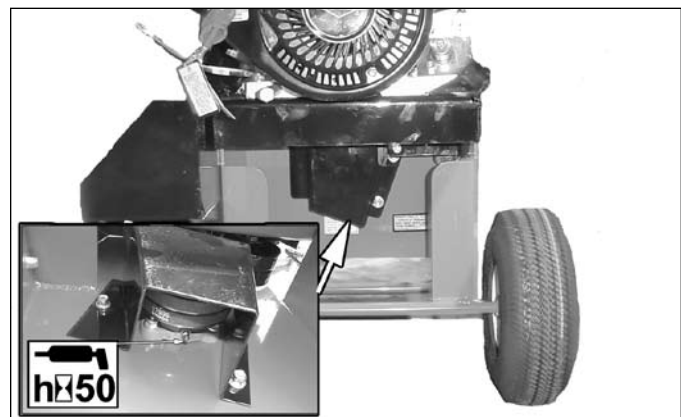

Figure 5.6 - Engine Side Bearing
2. Engine side bearing (Figure 5.6).